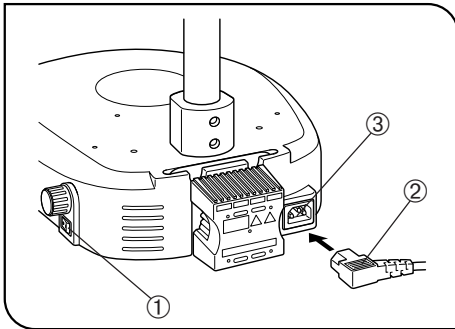

Fig. 22
## 5 Connecting the Power Cord (Figs. 22 & 23)
- ▲ Make sure that the main switch ① is set to “○” (OFF) before connecting the power cord.
1. Connect the power cord plug ② to the AC receptacle ③. (Fig. 22)
2. Connect the power cord plug ④ to a 3-conductor power outlet ⑤.